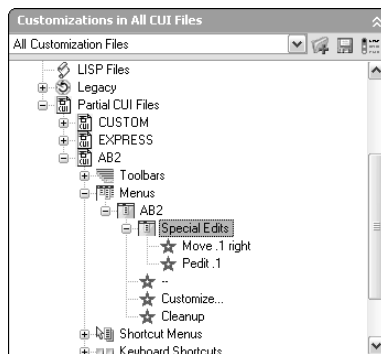

Figure 33-9: The new partial menu in the Customizations In pane of the Customize User Interface dialog box.
- Click the Save All Current Customization Files button in the Customizations In pane. Click the Special Edits menu item. Your pane should look like Figure 33-9.